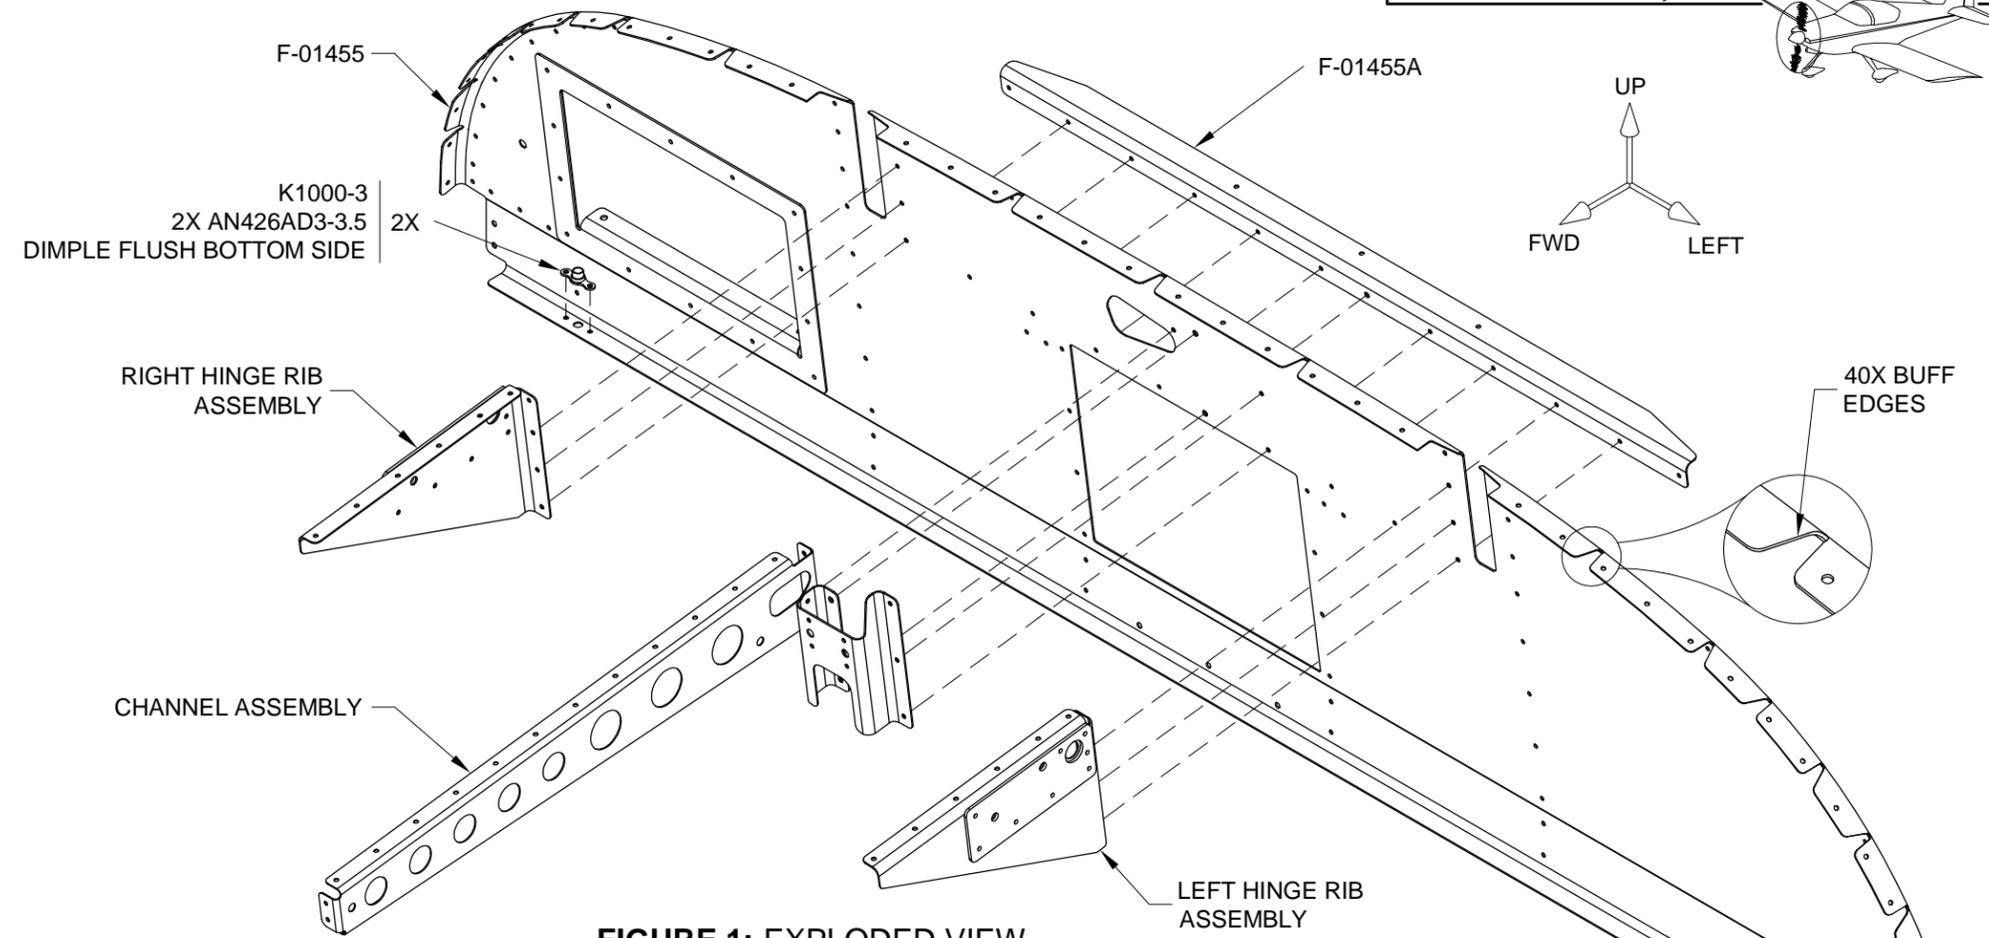

FIGURE 1: EXPLODED VIEW
Step 6: Cleco then rivet the Left and Right Hinge Rib Assemblies, F-01455A Sub Panel Angle, and Channel Assembly to the sub panel as shown in Figure 1. Use the rivets called out in Figure 2.